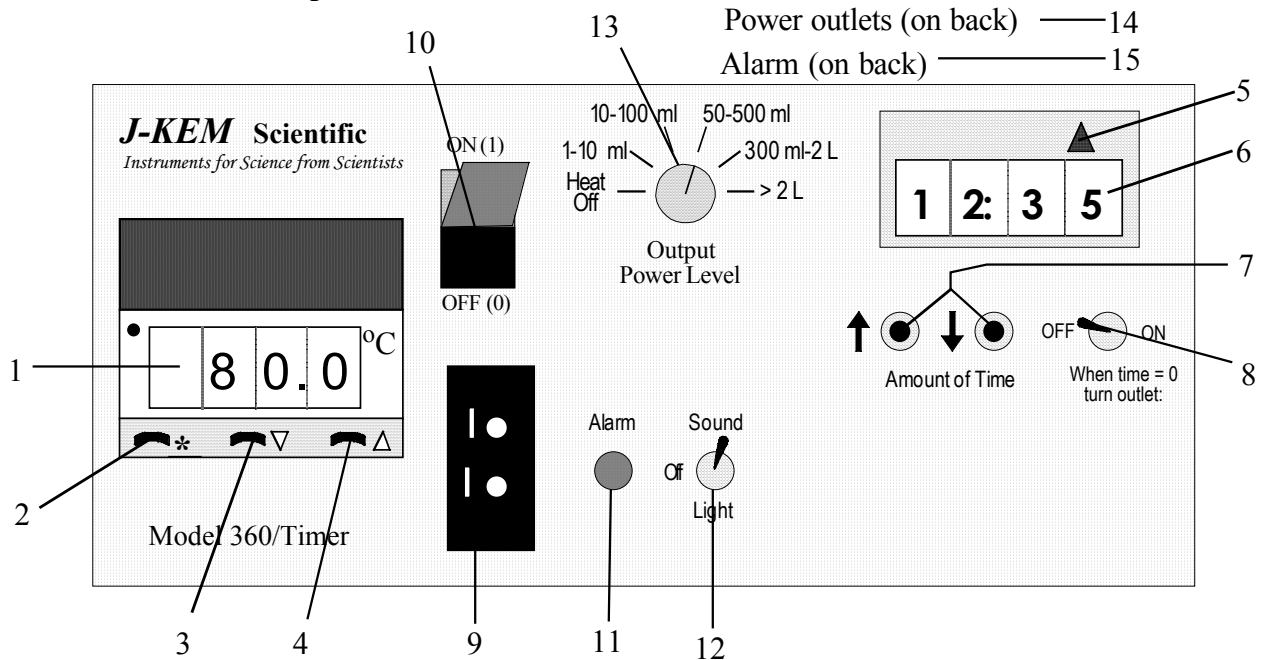

Figure 1
3.3 Temperature Sensor Input. Every controller is fitted with a specific *type* of thermocouple input and can only be used with a thermocouple of the same type. For the correct temperature to be displayed, the thermocouple type must match the receptacle type on the front of the controller (Figure 1; 9). All thermocouples are color coded to show their type (Blue = type T; Yellow = type K; Black = type J). The color of the thermocouple plug must match the color of the receptacle on the front of the controller.